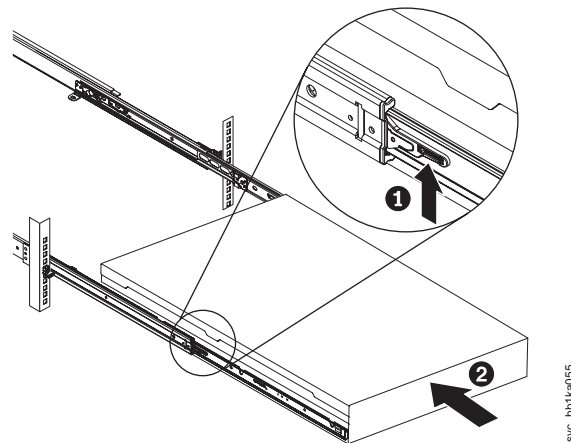

Figure 37. Raising the 2145-CG8 or 2145-CF8 locking levers of the slide rails of the rack
- Lift the locking levers ( **1** in Figure 37) on the slide rails and push the server **2** all the way into the rack until it clicks into place.